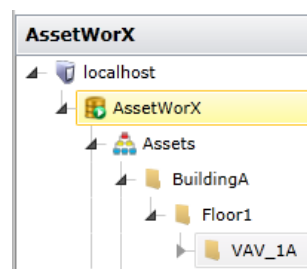

Figure 4 - Configured AssetWorX structure
5. Continue to build this structure with child asset to BuildingA of **"Floor1"**, and finally a child asset to Floor1 called **"VAV_1A"**. The resulting AssetWorX structure should look like Figure 4.